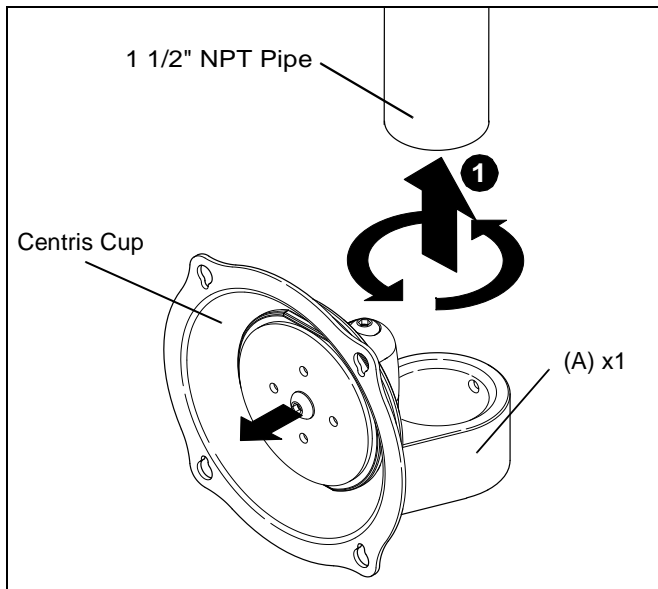

Figure 1
1. Thread mount (A) onto 1 1/2" NPT pipe until hand tight.
2. Adjust mount (A) position until Centris cup is facing the desired position of the display. (See Figure 1)
1. Determine mounting pattern on display. (See Figure 1)